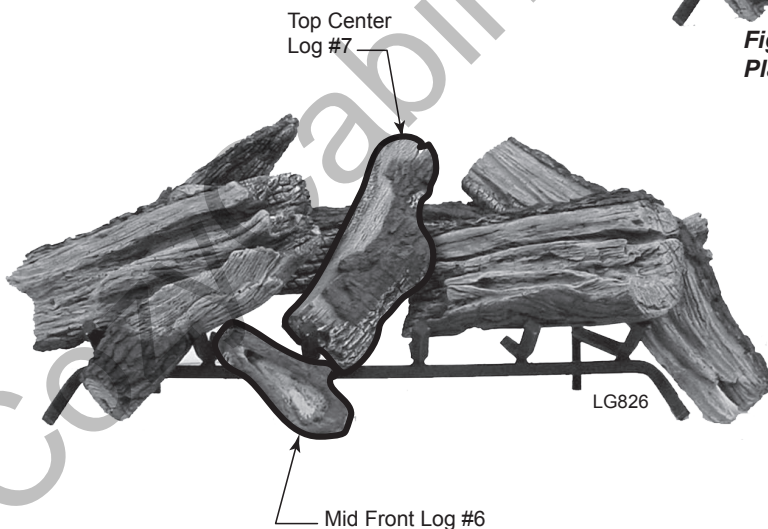

Figure 57 - Place Mid Front Log #6 and Top Center Log #7
6. Place Mid Front Log #6 on grate between center and middle left grate bars. Fit notch on back of log on the cross grate bar. *Figure 57*
7. Place wide end of Top Center Log #7 on Rear Log #1. Rest narrow end of Top Center Log #7 to the left of center grate bar barely touching the Mid Log #6. *Figure 57*